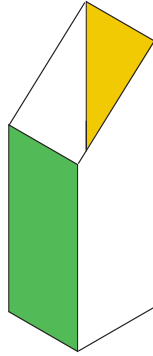

Fig. 8
- 9 Fig. 8 shows a container made of card.